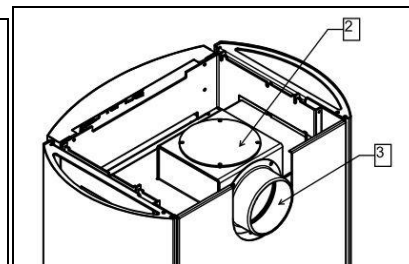

Figure 8
- Attach the flue gas connection to the rear of the chamber, ensuring the sealing tape fits properly, and secure with bolts and nuts (Figure 8, item 3).
- Place the cover on the top of the chamber, ensuring the sealing tape fits properly, and secure with bolts and nuts (Figure 8, item 2).